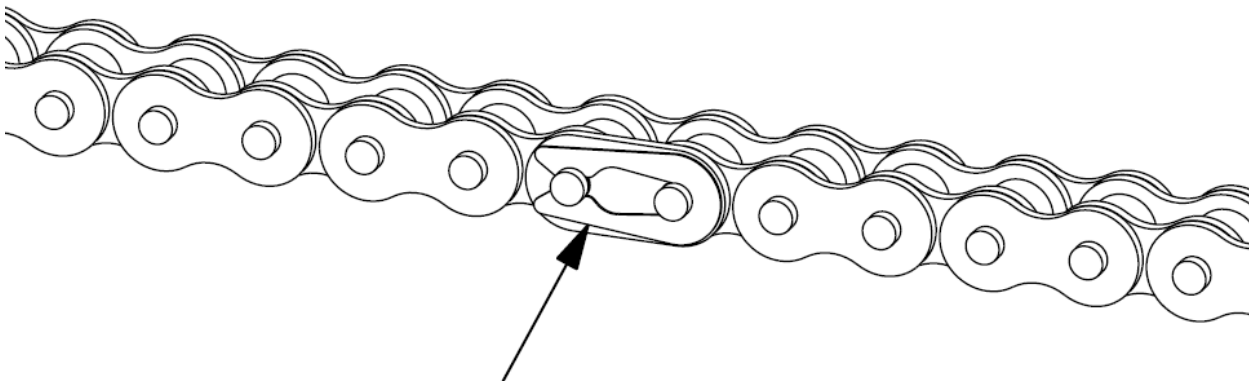

Figure 7-29: Connecting link spring clip
- i. Secure the outer plate in place by installing the spring clip, refer to **Figure 7-29**.